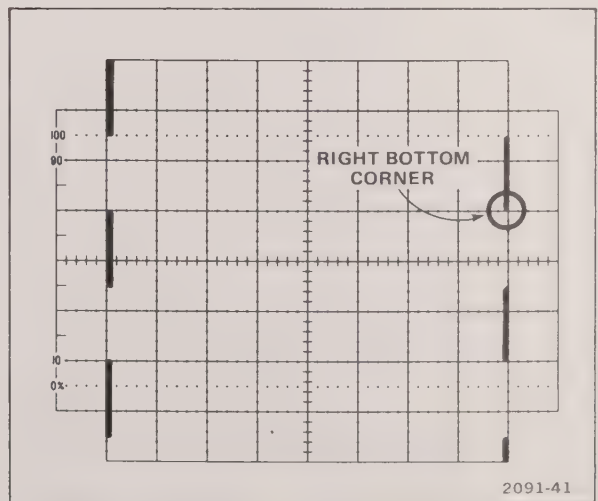

Figure 6-2. Typical display for adjusting horizontal compensation.
e. ADJUST—R215 (X Gain) for an 8-division display on the 607 as shown in Figure 6-2.
h. ADJUST—C200 (+ X Atten Comp) for an optimum square right bottom corner on the 607 display (see Fig. 6-2). For best accuracy, position the display corner of interest to graticule center.
j. ADJUST—C300 (- X Atten Comp) for an optimum square right bottom corner on the 607 display (see Fig. 6-2). For best accuracy, position the display corner of interest to graticule center.
o. ADJUST—C246 (X HF Comp) for an optimum square right bottom corner on the 607 display (see Fig. 6-2). For best accuracy, position the display corner of interest to graticule center.